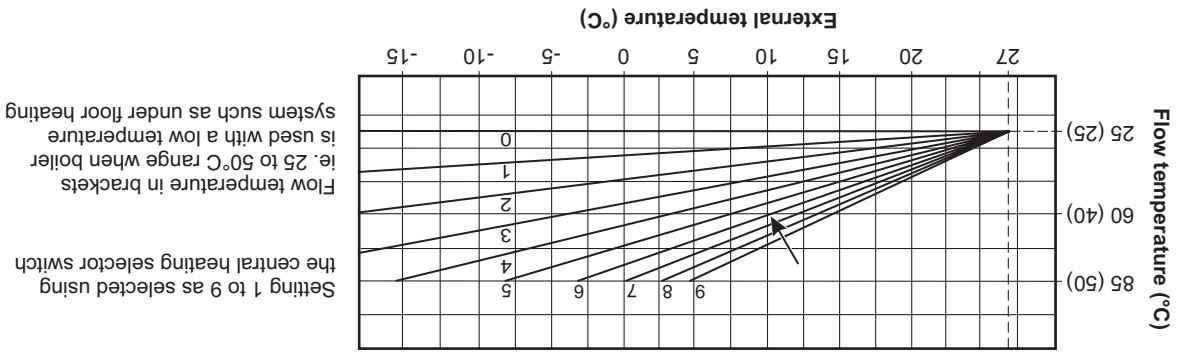
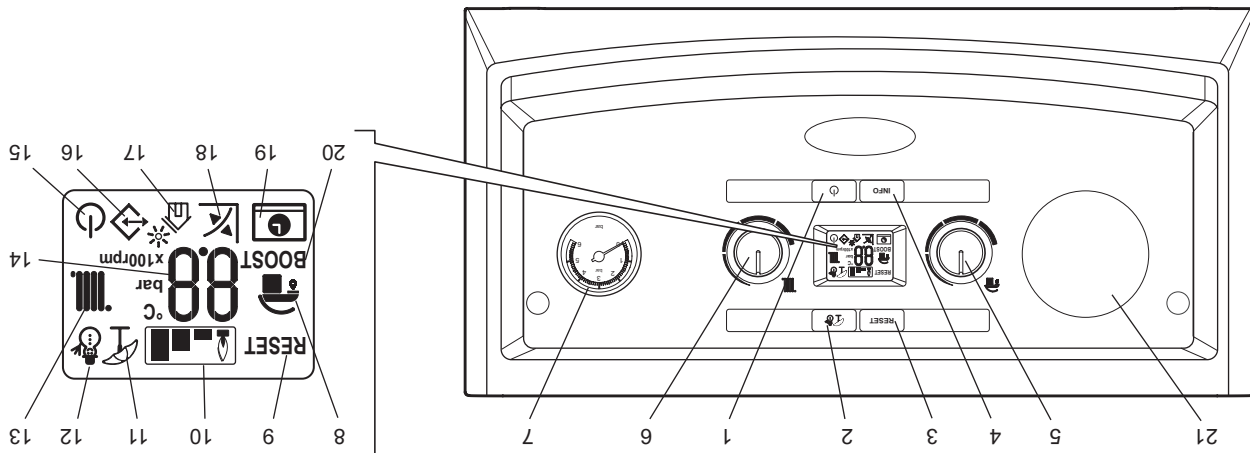

Fig. 2 - External weather compensation probe fitted
Fig. 1
If a fault occurs a fault code will be displayed in the LCD display screen (item 14 in Fig. 1), indicated with an alternating flashing E followed by the fault code. A list of fault codes are given in the table below.
Press the reset button (item 3 in Fig. 1) on the control panel to restart the boiler if the fault occurs again, make a note of the fault code and contact your installer or Alpha technical Helpline for further advice.
By pressing the info button (item 4 in Fig. 1) the information menu is accessed this will then show the information according to the table below.
The temperature of the hot water to the taps can be adjusted by turning the hot water selector switch (item 5 in Fig. 1) to the required value shown on the display in °C.
The temperature of the central heating water can be adjusted by turning the central heating selector switch (item 6 in Fig. 1). When the heating is on the temperature of the water leaving the boiler to the radiators will be displayed.
If an external weather compensation probe is fitted, indicated by the ☒ symbol (item 18 in Fig. 1) in the display, it will automatically vary the temperature of the water in the radiators and on a mild day the radiators will not feel as hot as on a cold day, this is normal and not a fault with the boiler or heating circuit. The room temperature will still be maintained as set by the room thermostat.
When an external weather probe is fitted, the central heating selector switch (item 6 in Fig. 1) will no longer adjust the flow temperature in °C, instead the display will show a scale of 1 to 9. Each number corresponds to a line on the graph in Fig 2 i.e. line 6 will give a flow temperature of 60°C when the external temperature is 10°C.
To fill or pressurise the system open one tap fully by turning it 90° anticlockwise in line with the tap housing. The second tap should be opened a quarter of a turn and the water will start to refill the system (water should be heard filling the system). You should see the pressure gauge (item 7 in Fig. 1) rise back up into the green area on the pressure gauge between 1 bar and 1.5 bar pressure.
The boiler controls are located on the control panel. Make sure the heating system is filled and the needle on the pressure gauge (item 7 in Fig. 1) is in the green band when cold. If incorrect refer to Section 4.
Switch the boiler on at the mains supply socket switch. The boiler will automatically go through a system purging operation for 8 minutes; this is indicated by a count down on the display starting from 96. During this operation the pump will turn on and off to help remove any air that may be trapped in the heating system. If the boiler has already been commissioned by the installer then this operation can be terminated by pressing the reset button (item 3 in Fig. 1).
By pressing the On-Off button (item 1 in Fig. 1) the Standby or On mode can be selected, or press and hold the On-Off button for eight seconds to turn the boiler off.
On - In this mode the boiler can be switched between 'Summer' or 'Winter' settings by pressing the Summer/Winter button (item 2 in Fig. 1).